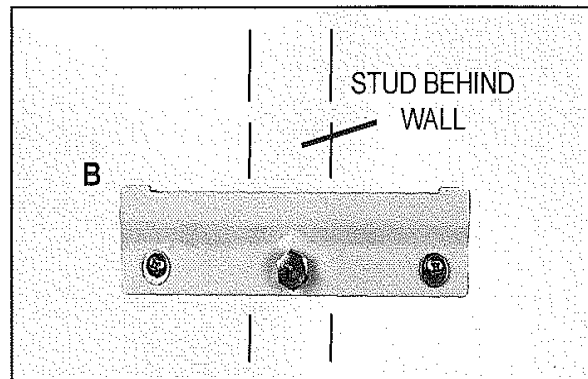

FIG. 4
2. Once the position of the bracket on a wall is determined, use a pencil to mark the wall with the locations of the 3 holes in the mounting plate. If possible, locate the center hole where there is a stud. Mount the bracket. Figure 4.